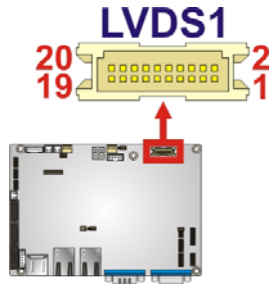

Figure 3-8: LVDS Connector Location
- CN Location:** See **Figure 3-8**